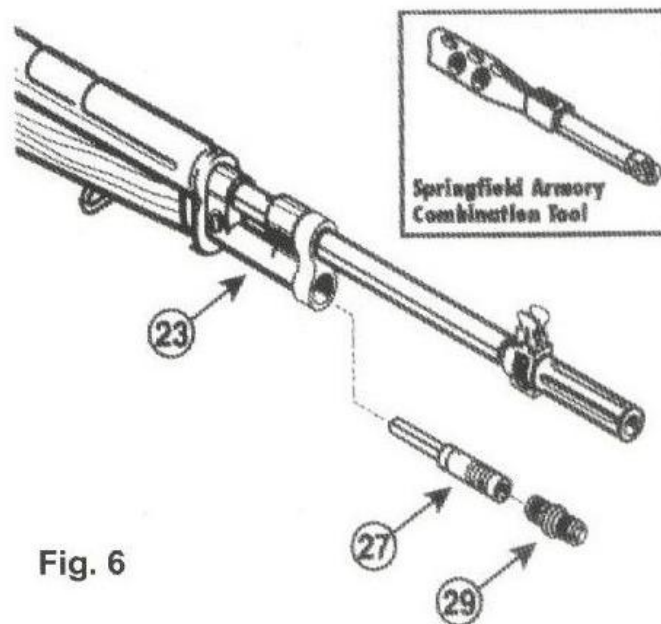

Fig. 6
The only normal maintenance procedure requiring any disassembly pertains to gas system care [see figure 6]. After clearing the action, making sure the rifle is unloaded and safe, remove gas cylinder plug (29) using a Springfield Armory combination tool or a socket wrench by turning it counterclockwise and withdrawing it from the gas cylinder (23). Tilting the rifle muzzle down, remove the gas piston (27), clean with bore solvent and wipe dry. Clean the inside of the gas cylinder and wipe dry. Remove carbon from inside the piston and plug and buildup on the outside of the